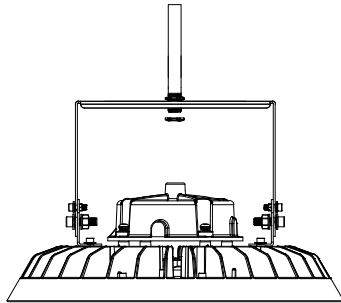

Figure 10
- ① Unscrew the nuts on 1/2 "NTP.Insert 1/2"NTP stem into the bracket hole (Figure10)